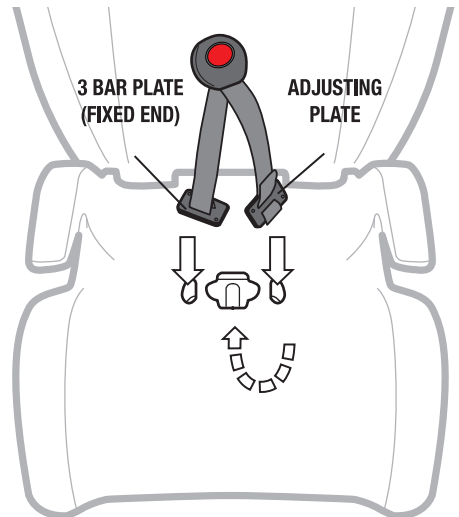

Figure 7
**Step 9:** If in working order refit the Buckle to the restraint with the red button facing out and feeding each 3-bar plate through appropriate slot (refer Figure 7).
**Step 10:** Turn the Buckle adjusting plate and push through the right hand slot (refer Figure 7 & 8).
**Step 11:** Turn the Buckle 3 bar plate and push through the left hand slot (refer Figure 7 & 9).